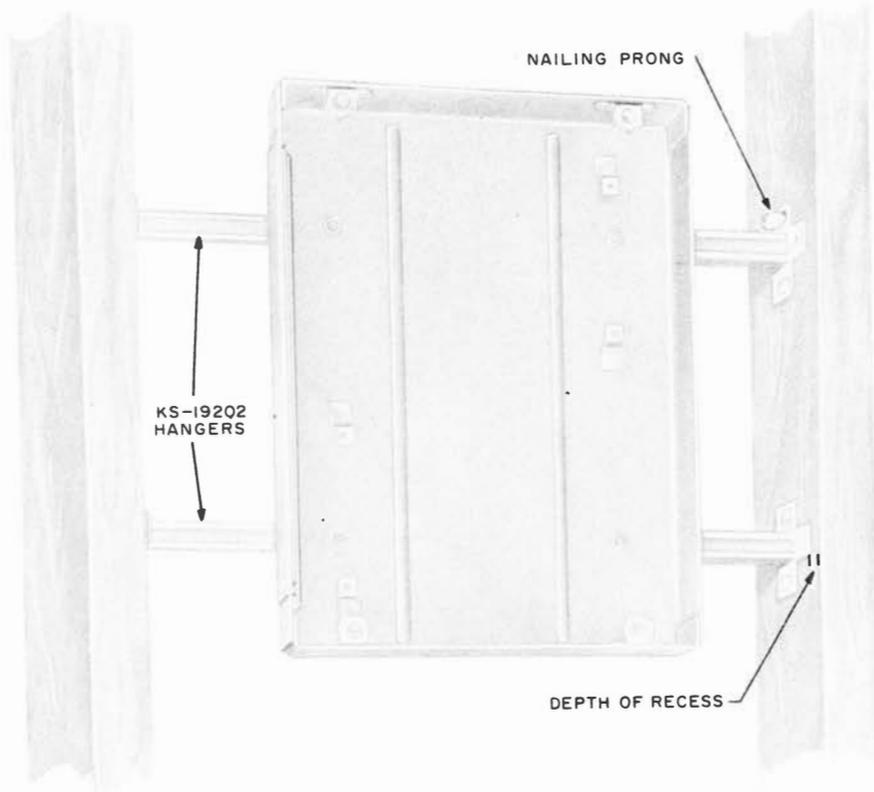

Fig. 8 – Installation of KS-19202 Hangers and 113-Type Apparatus Box
3.01 The 113-type apparatus box is designed primarily for installation on wall or partition studs before the dry wall or plaster wall is placed. Fig. 8 and Table B should be used as a guide for these installations using the KS-19202 hangers. (See Fig. 11.)
* Measurements are from face of wall stud to extreme front edge of tabs (see Fig. 8).